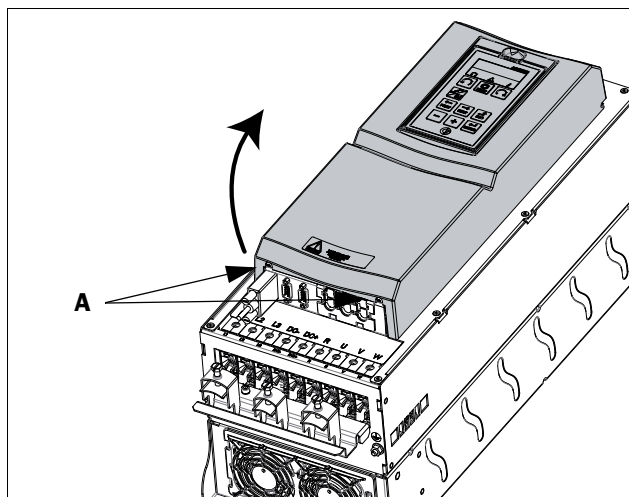

Fig. 29 Remove the front cover on frame size C2 - F2 and FA2 (principle drawing).
- Loosen the two screws A (see fig. 29) at the bottom of the cover a couple of turns (you do not have to remove the screws).